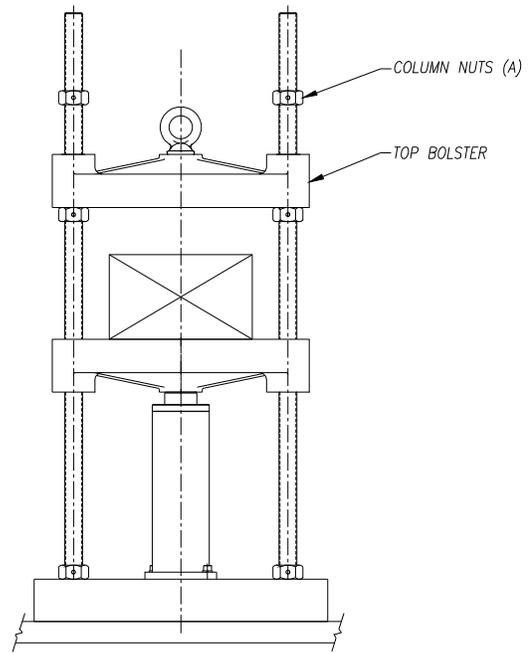

Figure 3-4
4. Move the upper column nuts (A) to the position required creating the desired daylight. (FIG 3-4)